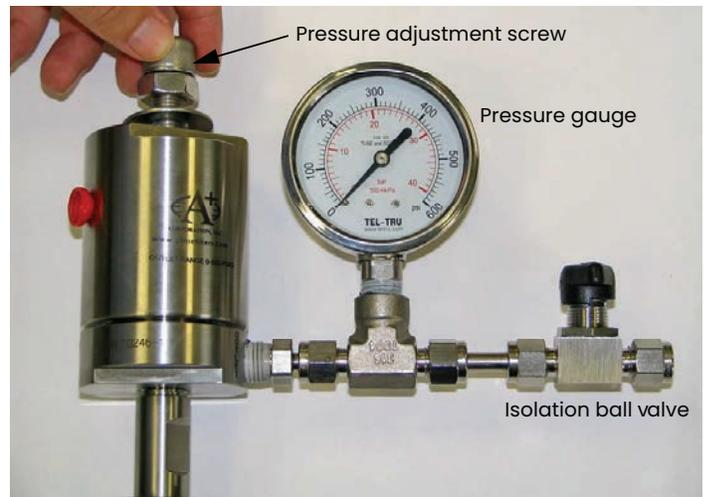

Figure 17: Rotating the pressure adjustment screw
2. Rotate the pressure adjustment screw on the pressure regulator fully counterclockwise until it rotates freely. Close the isolation ball valve (see *Figure 17* below).